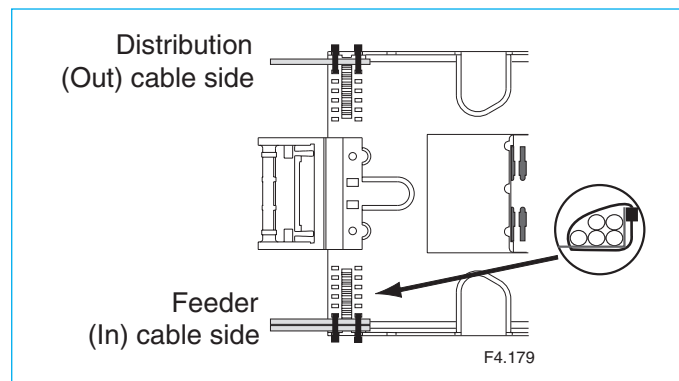

Figure 35.
10.1.4 Wrap the end of the cut buffer tube with loose buffer tube (LBT) wrap and secure the tubes to the tray with tie wraps. Tubes will stack under the tie wrap as shown. (Figure 35)